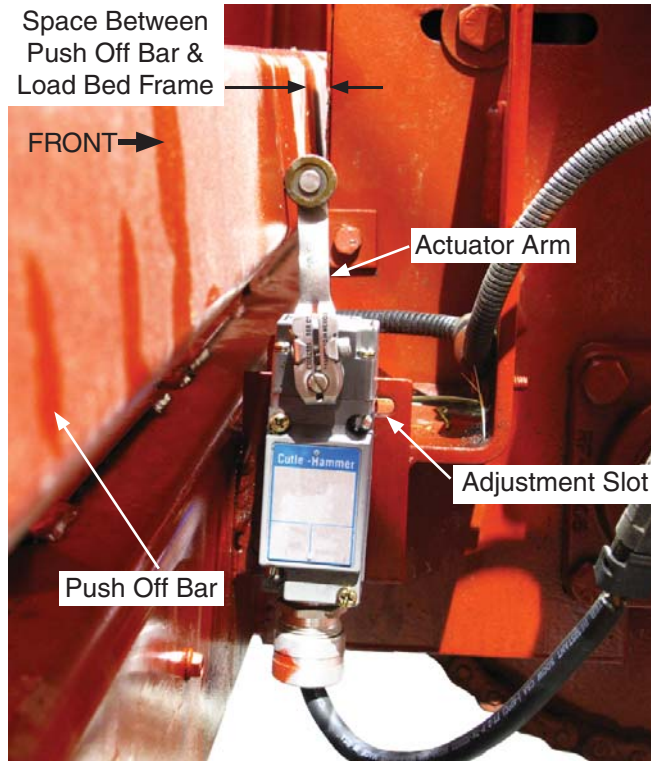

Figure 30 - Limit Switch - 11 Adjustment
1. Adjust the arm so that it properly contacts the Push Off Bar. The arm should be set so it is not pointing directly at the Push Off Bar, as that could cause the arm to bend (see Figure 30).